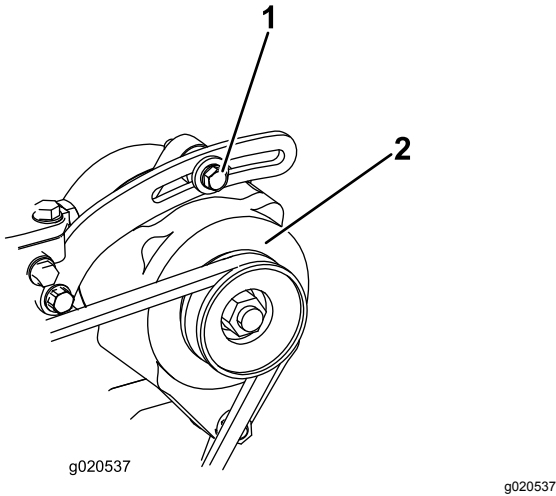

Figure 81
1. Loosen the alternator mounting bolts (Figure 81).